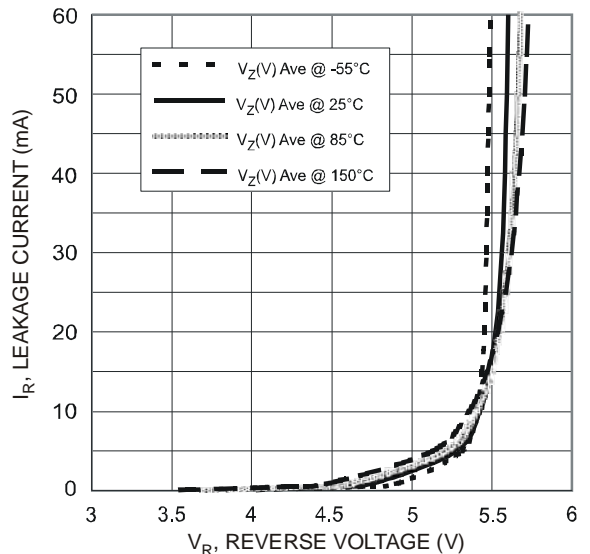

Fig. 9 Typical Reverse Characteristic
e.g. If $I_{pp} = 1A$, $V_{CL} = V_z + R_d * I_{pp} = 5.6V$ (from fig. 9) + $1A * 0.115 \text{ Ohm} = (5.6 + 0.115)V = 5.715V$ (close to actual measured Value)